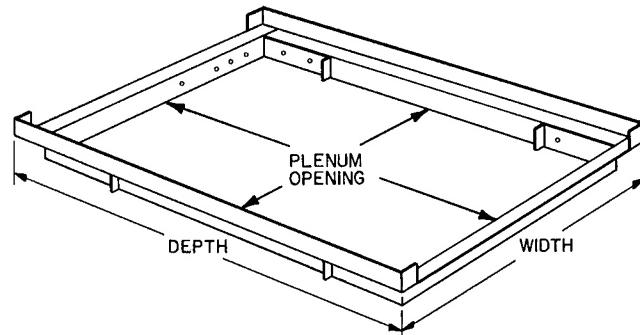

Fig. 5 — Combustible Floor Base
1. Read Installation Instructions packaged with combustible floor base. See Fig. 5.